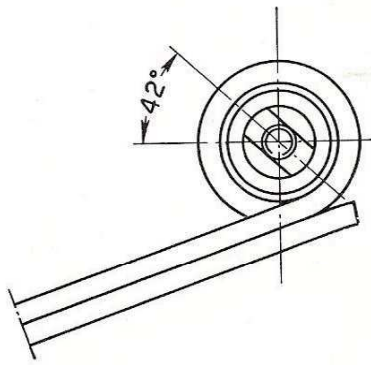

Fig. 289 - Diagram for correct bushing installation in spring rear eye.
1) Press fit the bushing with pin in main leaf rear eye, taking care that the flat on pin forms an angle of 42° with the eye-to-eye centerline. To this purpose, using installer A. 10230 (A. 74020) set the pin flat in line with the tool slot and the two reference notches of tool on the eye-to-eye centerline (figs. 289 - 290).